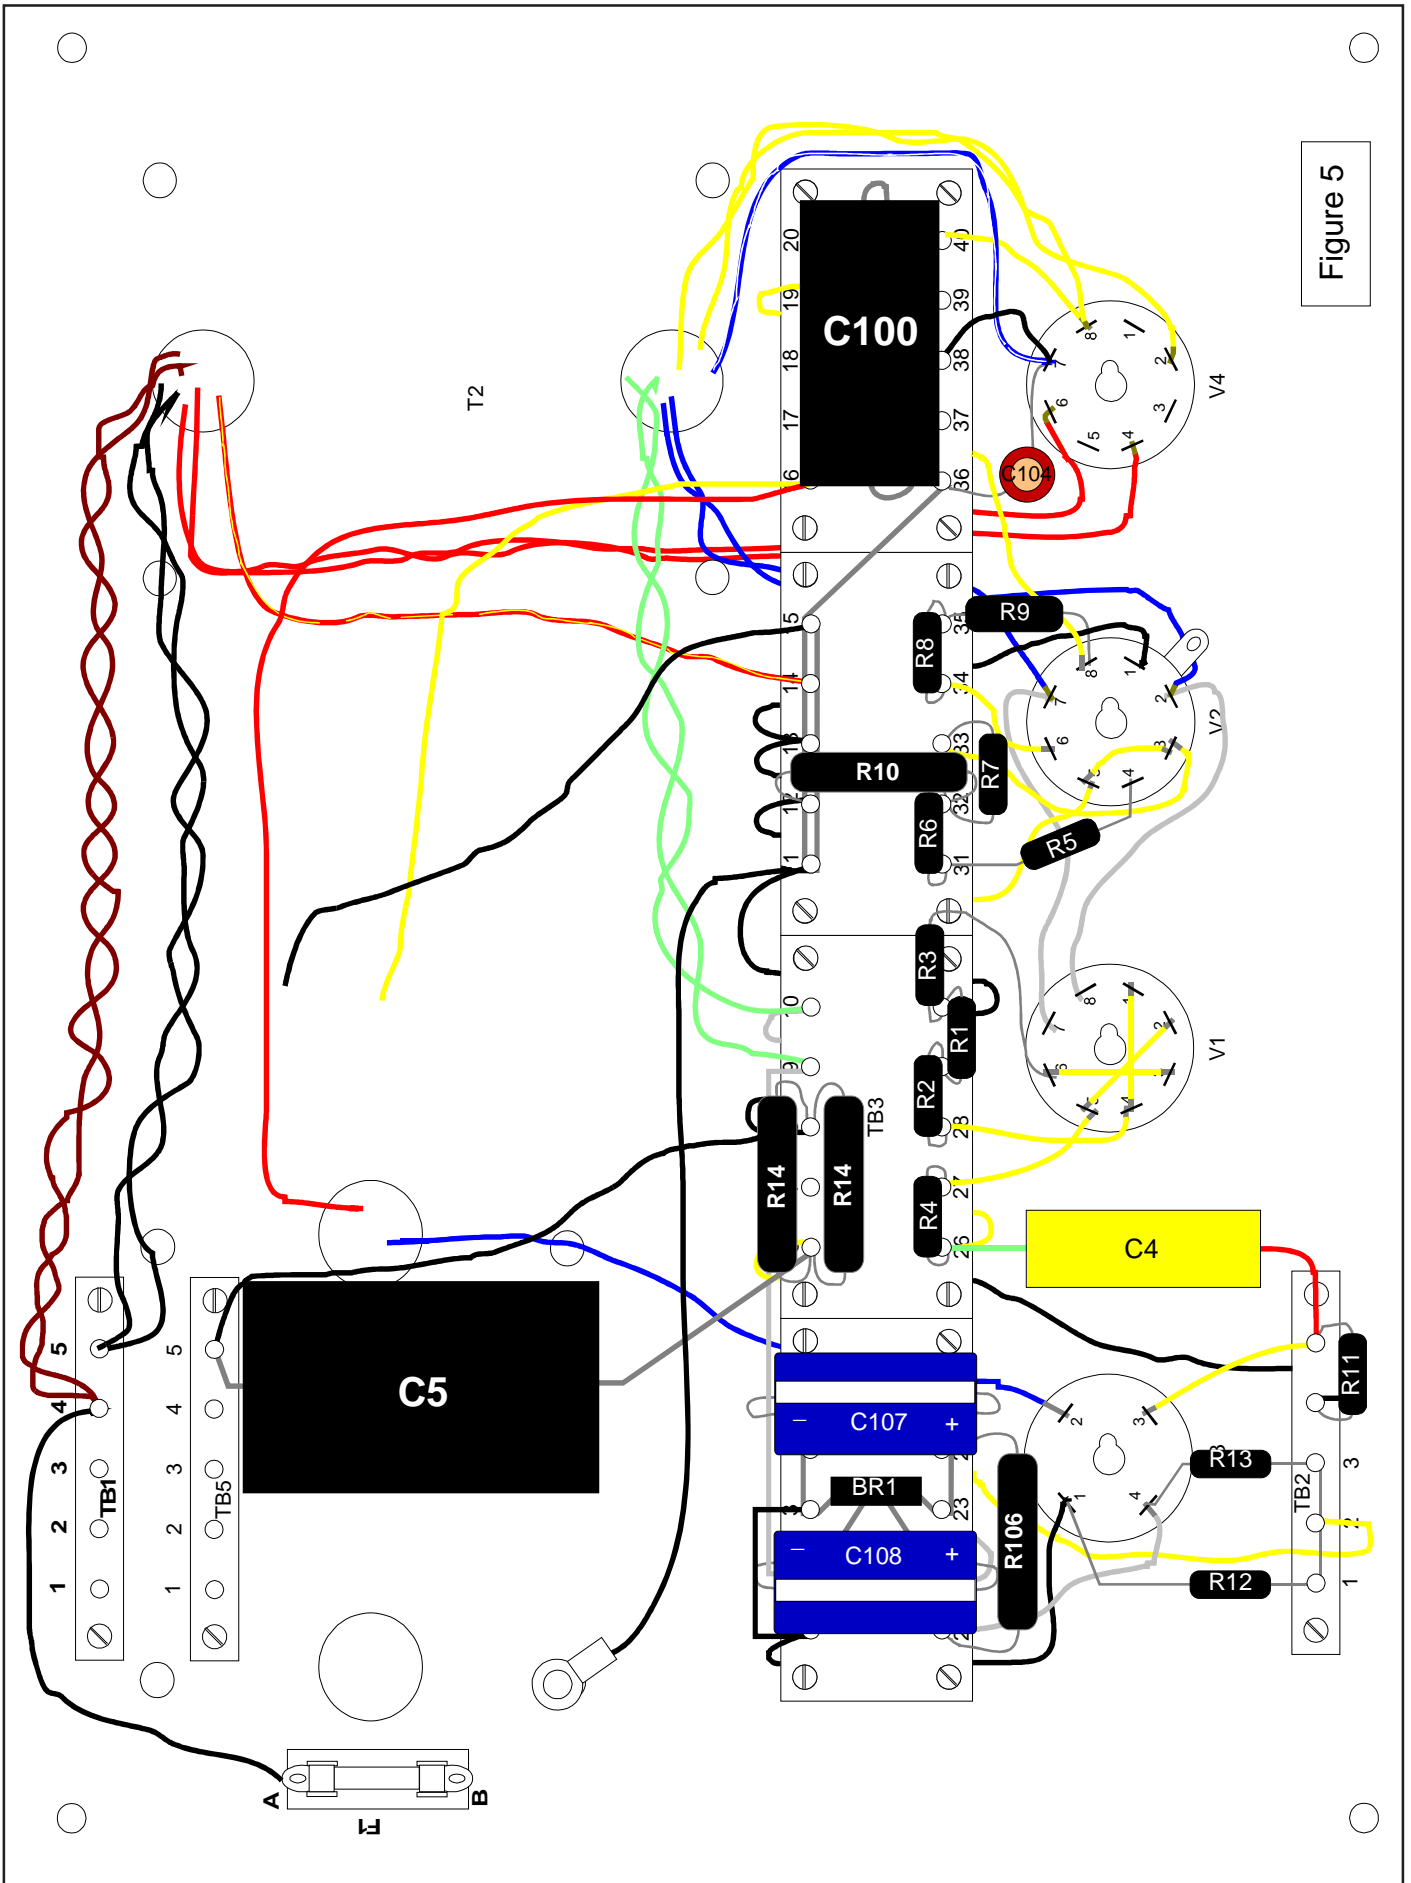

Figure 5
- 7) Now is a good time to inspect all connections and clean up any solder flux that may have splashed onto the terminal boards, brass plate, etc. As the amplifier is populated with more components it becomes more difficult to position the soldering iron without touching already placed parts. It is very important that you be aware of these parts when soldering and not accidentally burn the insulation off an adjacent component or wire. For this section, refer to figure 5 for all connections.
Bend the leads of the bridge rectifier BR1 so that it is now positioned vertically as shown in figure 5. Carefully inspect the bridge rectifier leads to insure that none of them are touching each other.
Solder the positive terminal of capacitor C104 to TB3-38 and the negative terminal to TB3-36. Refer to figure 5.
Solder capacitor C100 between terminals TB3-36 and TB3-40. Refer to figure 5.
Position capacitor C107 as shown in figure 5 and solder the positive lead to terminal TB3-24 and the negative lead (identified by the “-” sign) to TB3-4.
Position capacitor C108 as shown in figure 5 and solder the positive lead to terminal TB3-21 and the negative lead (identified by the “-” sign) to TB3-1.
Position R13 as shown in figure 5 and solder one lead to TB2-2 and the other lead to V3-4.
Position R12 as shown in figure 5 and solder one lead to TB2-2 and the other lead to V3-1.
Mount C5 as shown in figure 5. Solder one lead to TB5-5. Solder the other lead to TB3-6.
Position R11 as shown in figure 5 and solder one lead to TB2-4 and the other lead to TB2-5.
Position C4 as shown in figure 5 and solder one lead to TB3-26 and the other lead to TB2-5.
Position R4 as shown in figure 5 and solder one lead to TB3-26 and the other lead to TB3-27.
Position R7 as shown in figure 5 and solder one lead to TB3-32 and the other lead to TB3-33.
Position R6 as shown in figure 5 and solder one lead to TB3-31 and the other lead to TB3-32.
Position R10 as shown in figure 5 and solder one lead to TB3-12 and the other lead to TB3-32.
Position R8 as shown in figure 5 and solder one lead to TB3-34 and the other lead to TB3-35.
Position R9 as shown in figure 5 and solder one lead to TB3-35 and the other lead to V2-8.
Position R5 as shown in figure 5 and solder one lead to TB3-31 and the other lead to V2-4. Be sure to use the Teflon sleeving with this resistor since more of the leads are exposed.
Position R3 as shown in figure 5 and solder one lead to TB3-30 and the other lead to V1-6. Be sure to use the Teflon sleeving with this resistor since more of the leads are exposed.
Position R2 as shown in figure 5 and solder one lead to TB3-28 and the other lead to TB3-29.
Position R1 as shown in figure 5 and solder one lead to TB3-29 and the other lead to TB3-30.